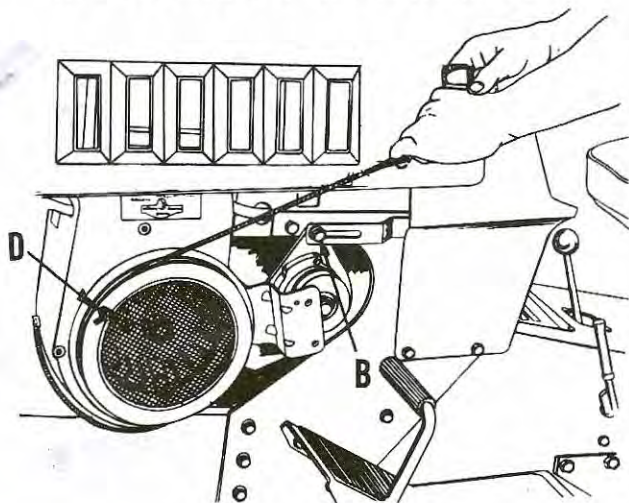

FIG. 26
- b. Loosen nut (B, Fig. 26), and push motor-generator forward. This will take tension from V-belt. Remove belt.
- c. Secure a piece of rope and tie a knot in one end. Place this knot into notch (D), in engine pulley, refer to Fig. 26.
DO NOT REPLACE V-BELT OR GUARD WHILE ENGINE IS RUNNING. The above method of starting is only a means to get unit to nearest source of battery charging. **DO NOT** operate tractor any longer than necessary with V-belt and guard removed. Stop engine and replace as soon as possible. Be sure to have proper tension on belt, retighten nut (B, Fig. 26).